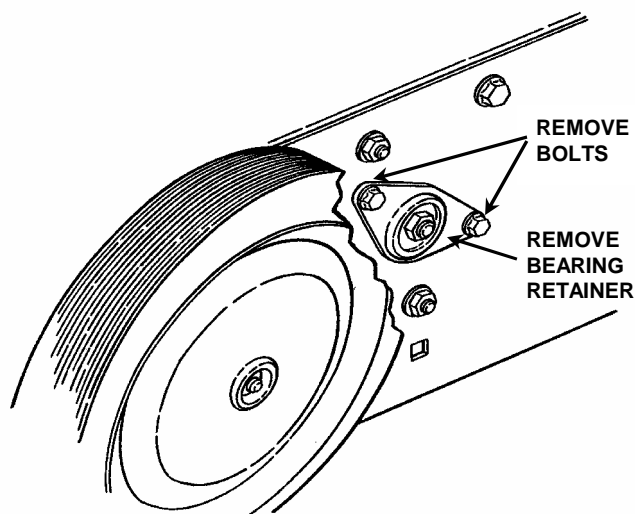

FIGURE 4.10
2. Remove the 3/8" hex lock nut, which is located on the outside of the right wheel bracket. See Figure 4.10.